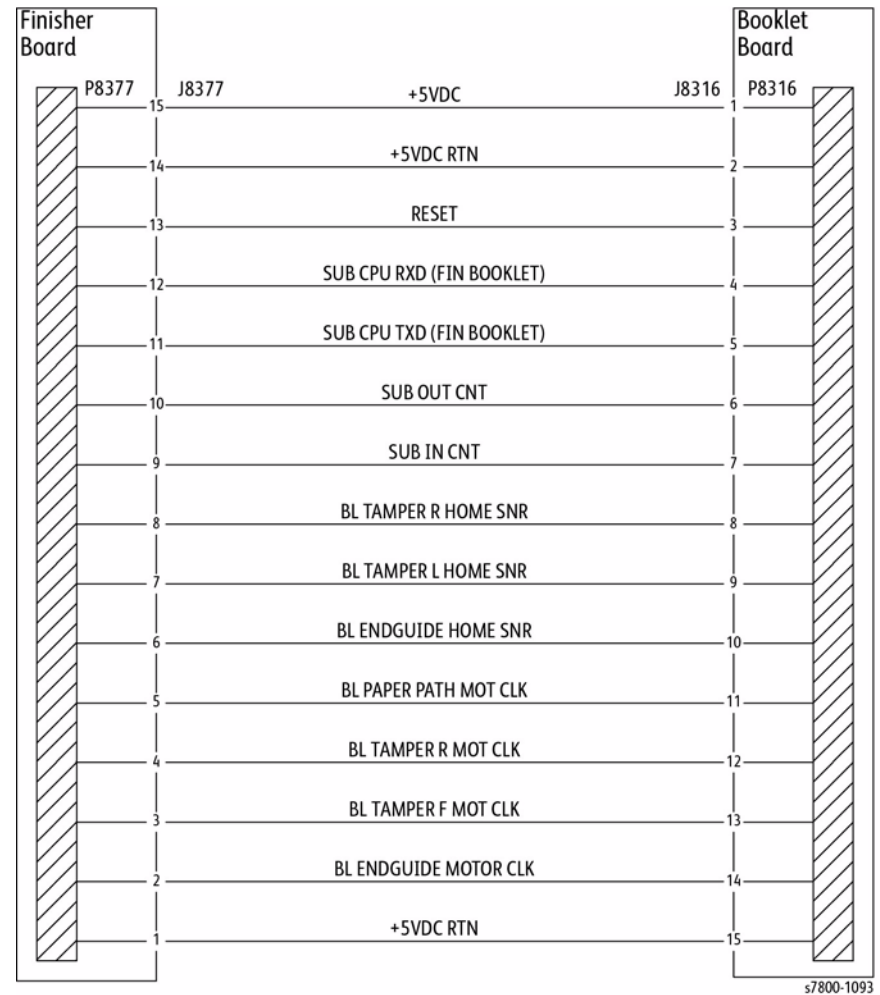

Figure 1 Finisher, Booklet PWBs
- Check the connectors at the Finisher PWB and the Booklet PWB are connected or seated properly (Figure 1).
- Check the wiring between the Finisher PWB and the Booklet PWB for damage (Figure 1).